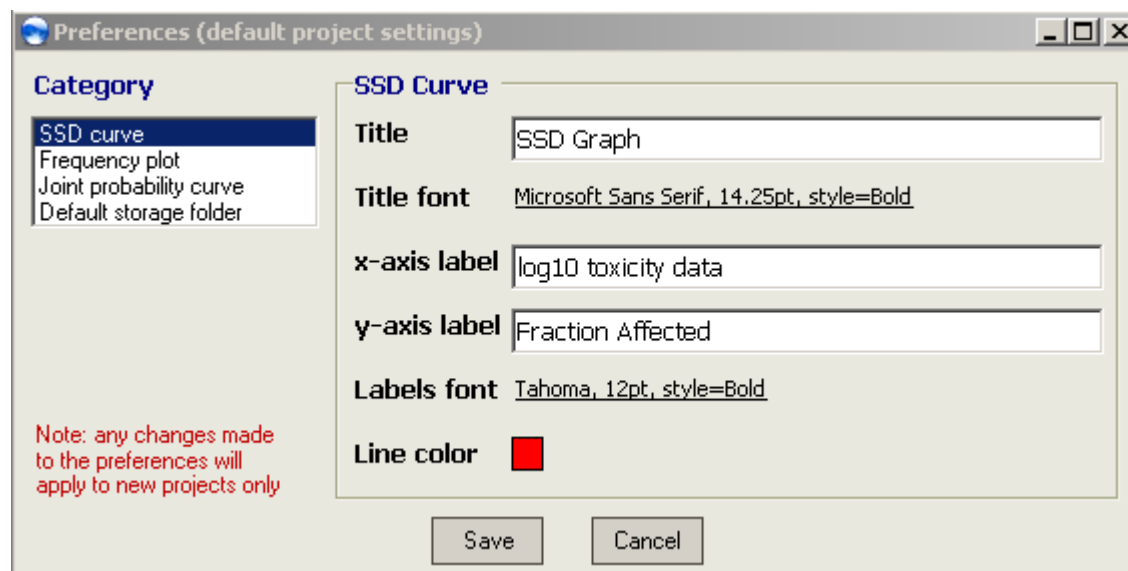

Figure 24. The default preferences dialog box.
You may enter default values for the appearance of each of the three graphs via the **Tools, Preferences** menu that you can access via the menu bar. Figure 24 shows the dialog box that appears when you select this option.
- Click on **Tools, Preferences**. The box shown in Figure 24 appears.